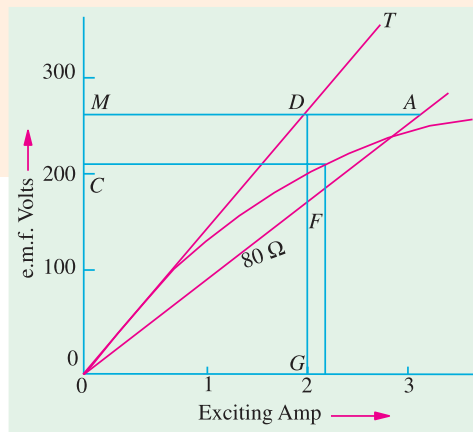

Fig. 28.15
**Solution.** (a) O.C.C. is shown in Fig. 28.15. OA represents  $80 \Omega$  line. The maximum voltage to which the generator will build up is given by  $OM = 222 \text{ V}$ .